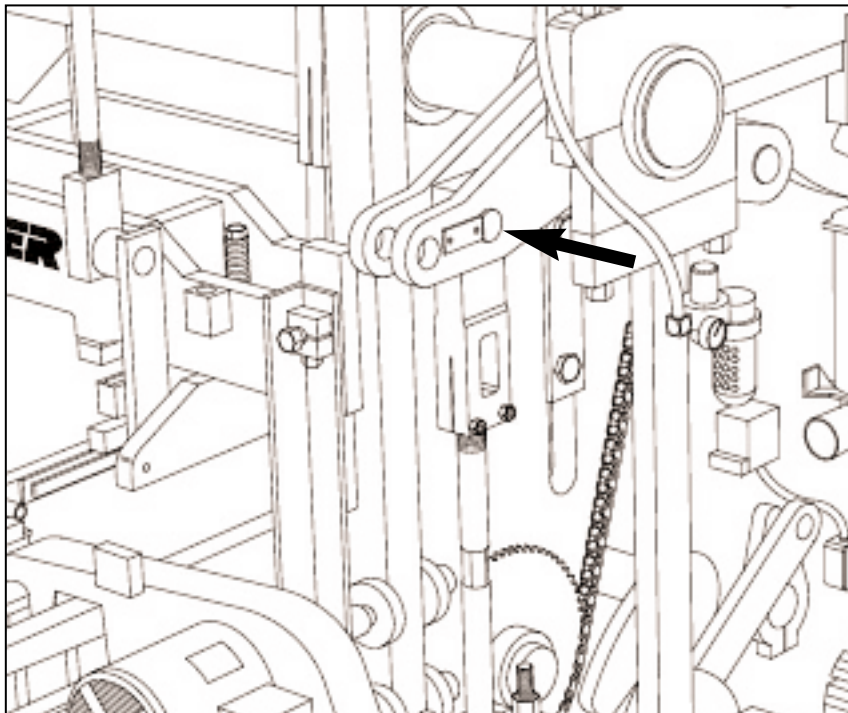

Figure 4.43 PALLET RECEIVER SHAFT POSITION.
4.3.5 The following items should be positioned as shown on figures 4.43 and 4.44.
- a. Pallet receiver shaft - position pins in inside holes (short stroke)(see figure 4.43).